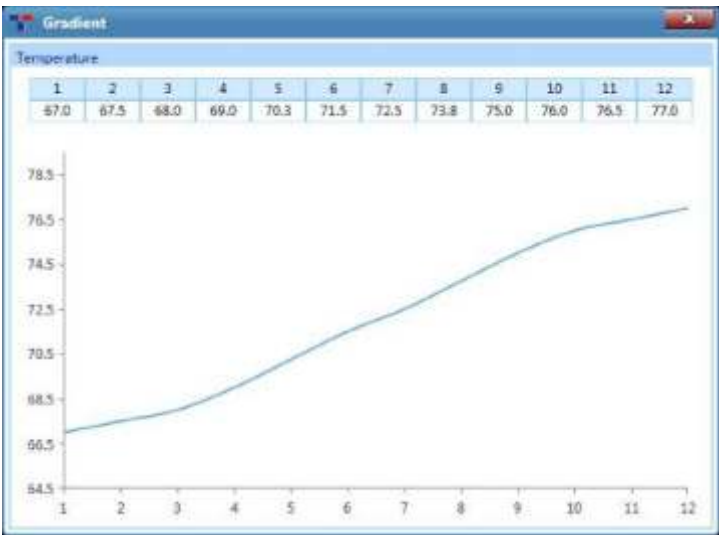

Figure D-5.6e Step Setting Dialog Box – Gradient Temperature Details
- ▶ **Details:** Users can click < **Details** > to the specific gradient temperatures of each column and the Gradient distribution, as shown in figure D-5.6e.